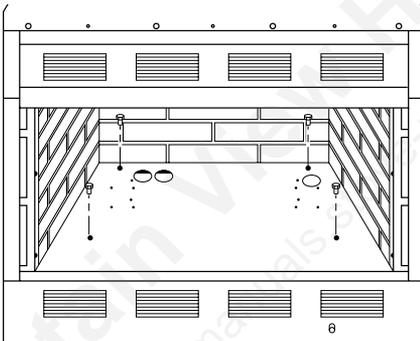

Figure 10 - Removing Firebox Bottom
2. Lift and remove firebox bottom (see Figure 10).